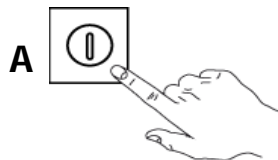

Fig.27
- 4- Close the door and press button "A" to turn ON the machine. Indicator light "C" is ON. (Fig.27)